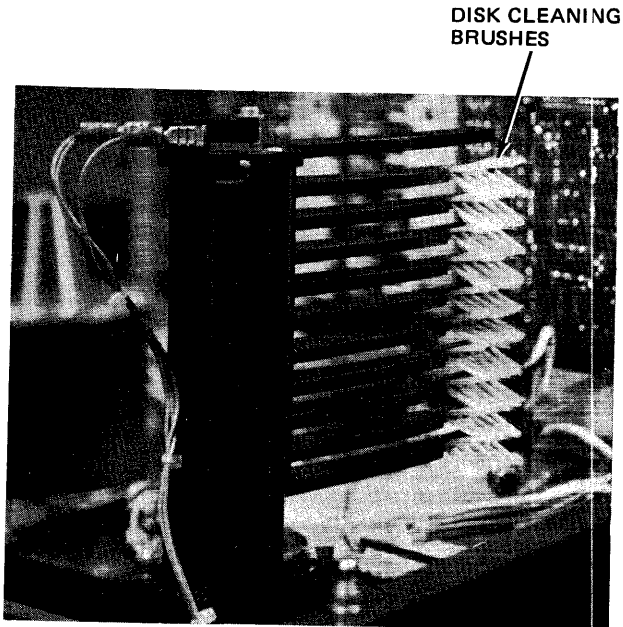

Figure 4-5. Disk Cleaning Brushes
- a. Utilizing a light source, individually inspect each brush head for worn or contaminated brushes (see Figure 4-5).